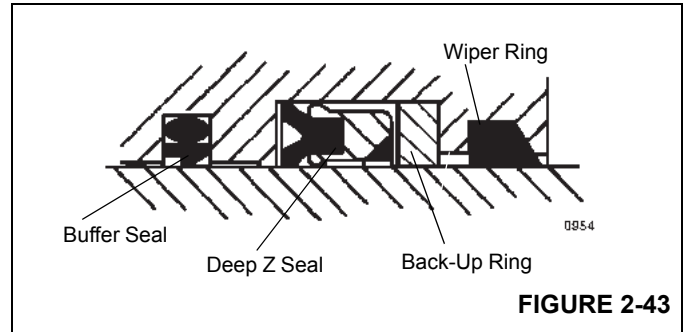

FIGURE 2-43
3. Install the replacement wear rings, buffer seal, deep Z rod seal, backup ring, and wiper ring Figure 2-43 in the inside of the head. Make sure the buffer seal's step is closer to the deep Z rod seal. Make sure the deep Z rod seal's rim groove is closer to the buffer seal.